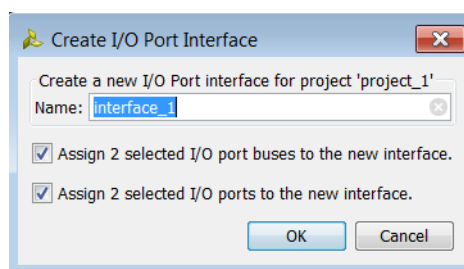

Figure 3-20: Create I/O Port Interface Dialog Box
3. In the Create I/O Port Interface dialog box (Figure 3-20), enter a name for the interface, adjust assignment selection, and click **OK**.